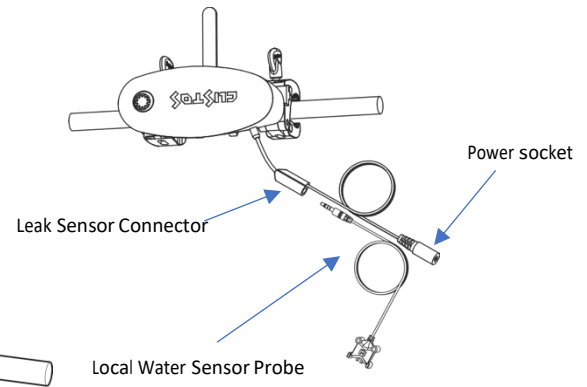

Figure 6C
- Unplug the Dust Cover and plug Local Water Sensor Probe into connector tightly. (Optional) *Refer to Figure 6C